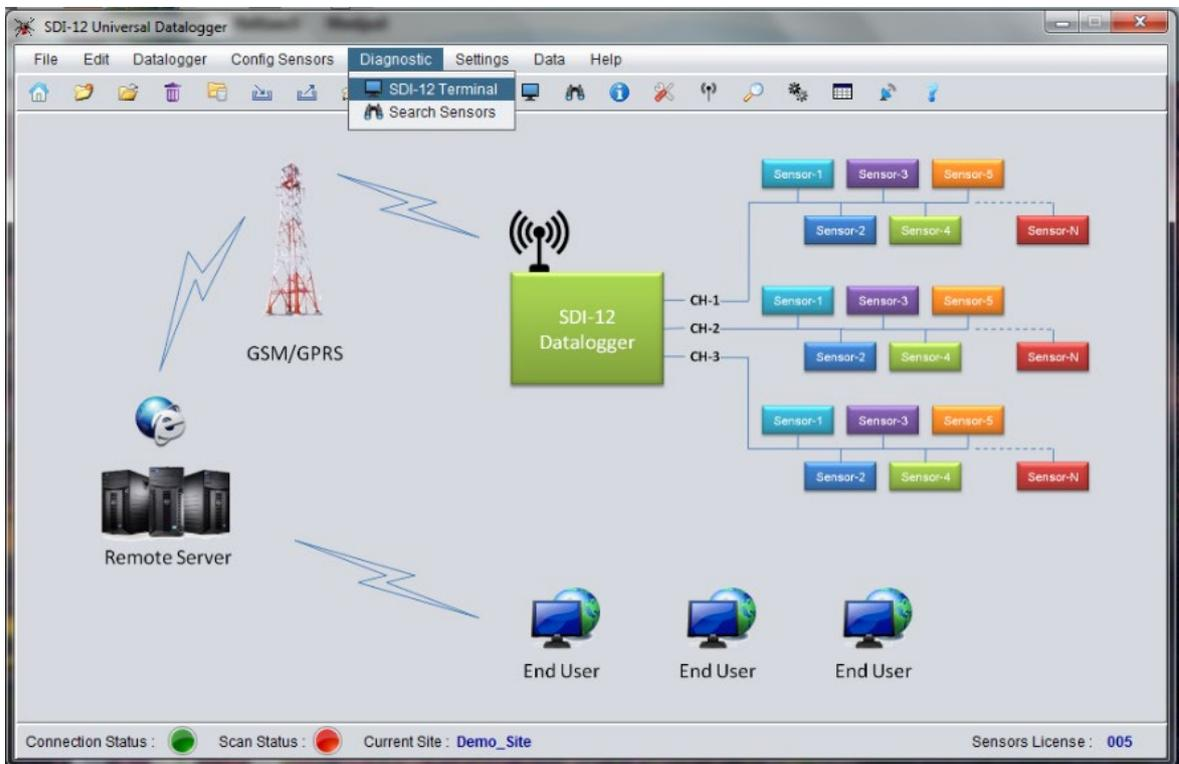

Figure 7-8 Assigning ID to SDI-12 sensor
- 7 Connect a single sensor to any Channel of the Datalogger physically. Click “Diagnostic” followed by “SDI-12 Terminal” to the set the ID of the sensor as shown in figure 7-8 below.